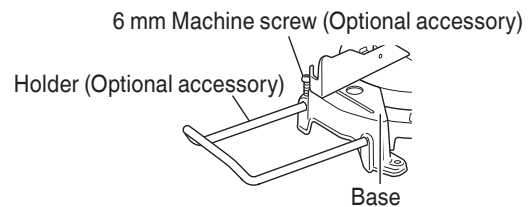

Fig. 10
- As indicating in Fig. 10, installing the holder in the holes on the side of base and fasten it with 6 mm machine screw (Optional accessory).